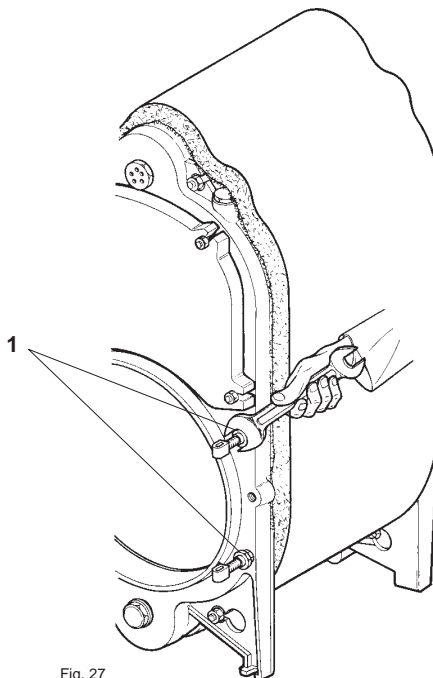

Fig. 27
5.04 (Fig. 27) Slacken nuts 1 on the right-hand side of the boiler.